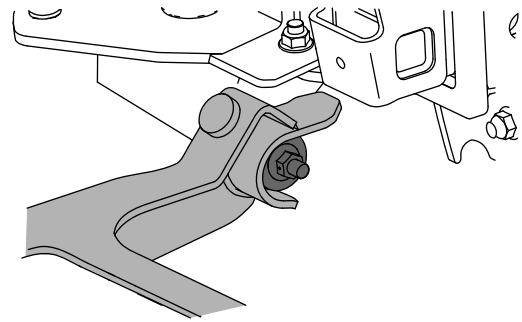

Figure 16
13. Place the blower assembly forks onto the bushing assemblies (Figure 16).